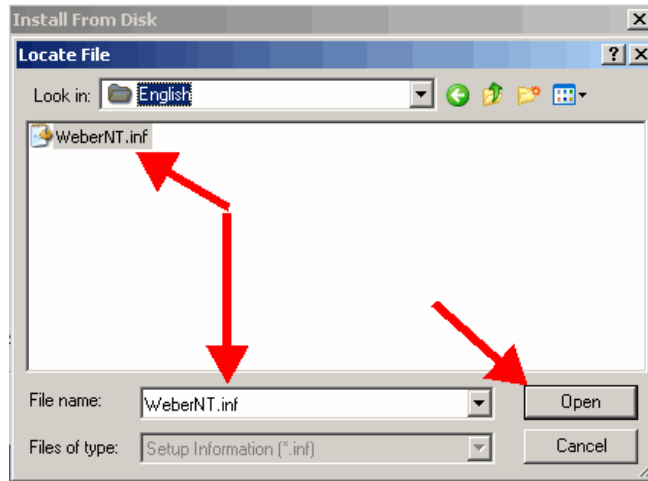

Figure 3-10
3.2.10. Double-click on the *WeberNT* file. (Figure 3-10)